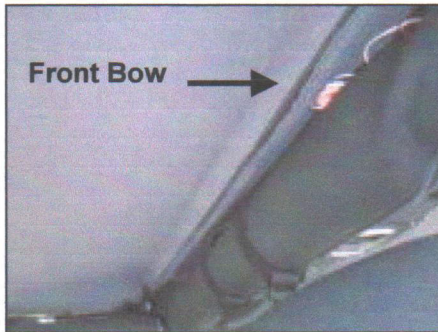

Figure 16
2. Snap the Soft Top to the center and rear Bow Assembly (Figure 16 & 17).